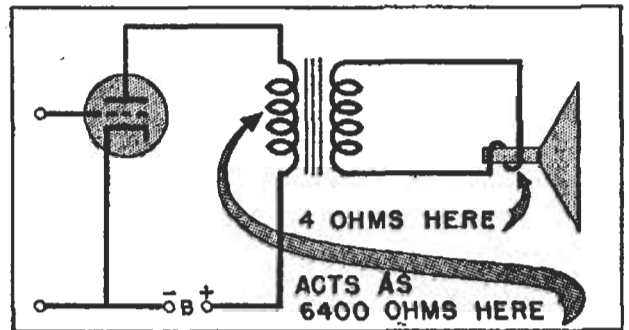

FIG. 13. The impedance-matching transformer causes the load to act in its primary circuit as the required impedance value.
► Now, knowing the voltage across the primary and the current that must pass, we can find the primary impedance. From Ohm's Law,  $Z = E_p \div I_p = 160 \div .025 = 6400$  ohms. At the beginning, we assumed a tube impedance of 6400 ohms, so the tube and the effective primary value are matched or equal. Thus, when the connections are as shown in Fig. 13, the tube "sees" the 4-ohm loudspeaker through a 40-to-1 transformer as a load of 6400 ohms, so it delivers the maximum power to the transformer for transfer to the speaker.
which is the equivalent circuit for Fig. 13. In effect, the transformer "reflects" the value of  $R_L$  into the plate circuit as  $R_A$ —a value which is equal to  $R_L$  times the square of the turns ratio of the transformer.